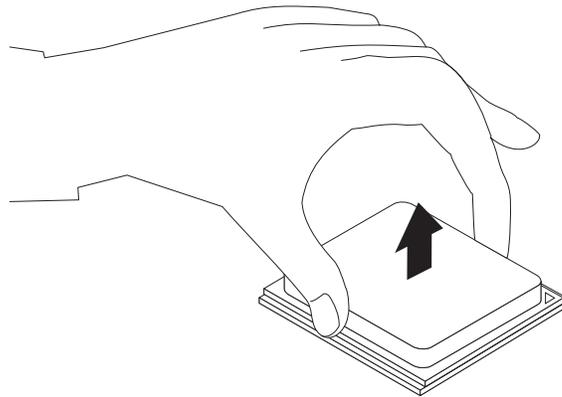

Figure 17. Removing the microprocessor
8. Lift the microprocessor straight up and out of the socket. As shown in Figure 17 on page 29.